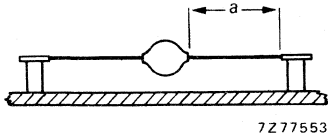

Fig. 3 Mounting method 2.
2. Thermal resistance from junction to ambient when mounted to solder tags at a lead length $a = 10$ mm; Fig. 3
Fig. 7 Interrelation between the steady-state power dissipation excluding power in avalanche region (left-hand graph), and the maximum permissible ambient temperature (no leads of other dissipating components running to the same tie-points) in accordance with the mounting methods mentioned in Figs 3 and 4.